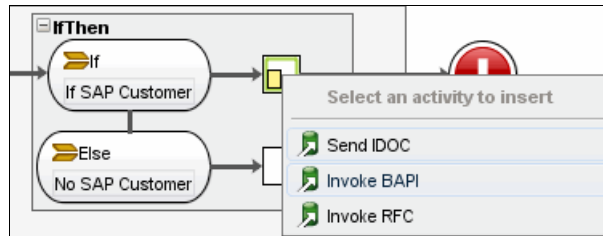

Figure 10-99 SAP activities
2. Select **Invoke BAPI**, as shown in Figure 10-99 on page 420.